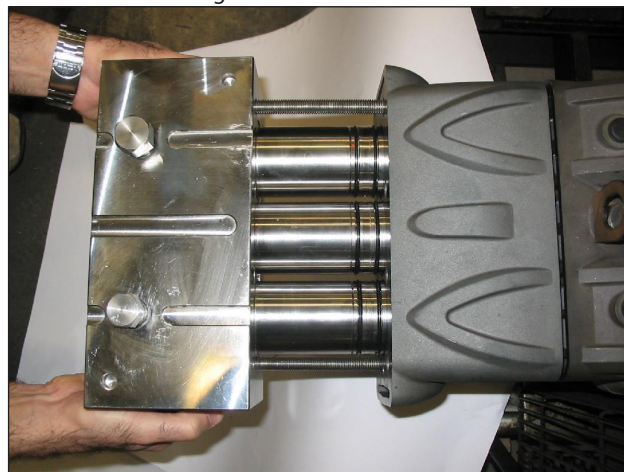
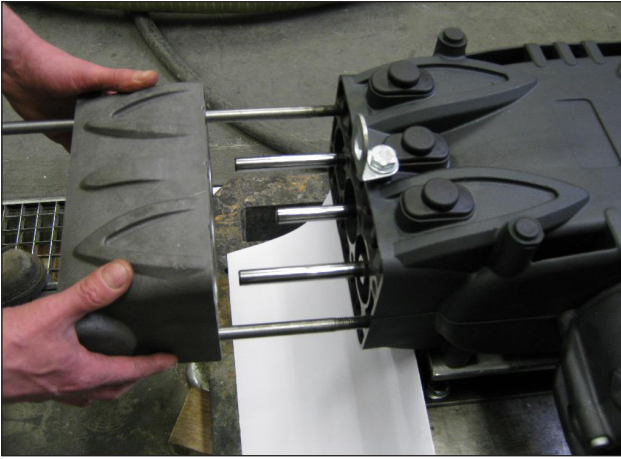

Fig. 37
Fig. 38
- Separate the head and the spacer for the liners from the pump casing as shown in Fig. 37 and Fig. 38.
- Separate the head and the spacer for the liners from the pump casing as shown in par. 2.2.1 Fig. 37 and Fig. 38.